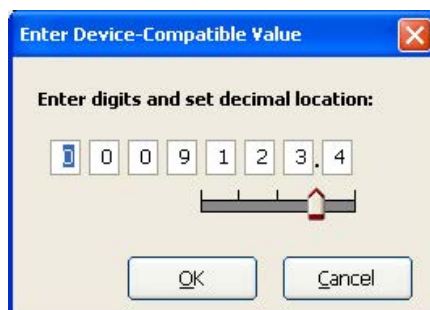

Figure 4.30—Data-entry screen for 4-20 mA low and high values
2. Click on the pencil icon next to the Low Flow Rate field to launch a data-entry window (Figure 4.30) and enter the “low” or “zero” flow rate value that will produce a 4-mA output. Adjust the decimal position, if necessary, using the slide bar. A flow rate less than or equal to this minimum setpoint will result in an output of 4 mA.